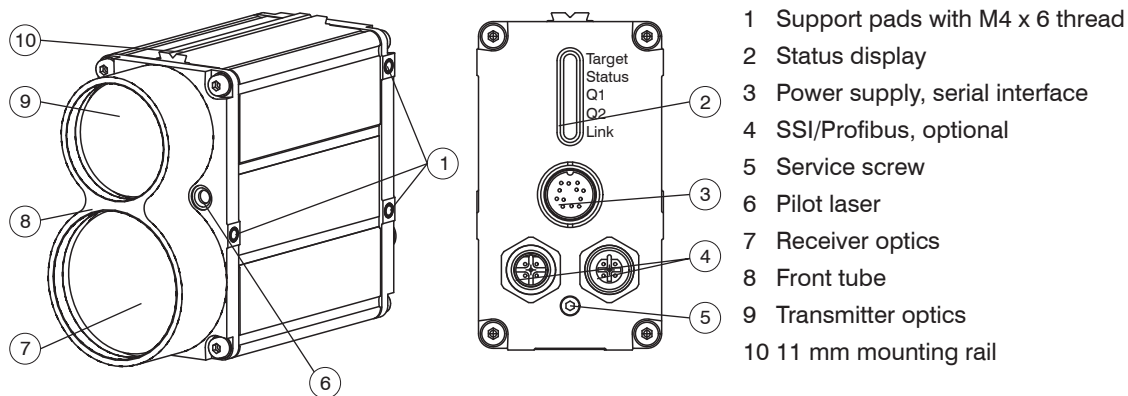

Fig. 2 Elements of a sensor
The pilot laser, see Fig. 2, reference 6, supports the sensor alignment to a given target during commissioning. It qualifies as a class 2 (II) laser device and operates at 635 nm (red) in the visible range. The pilot laser